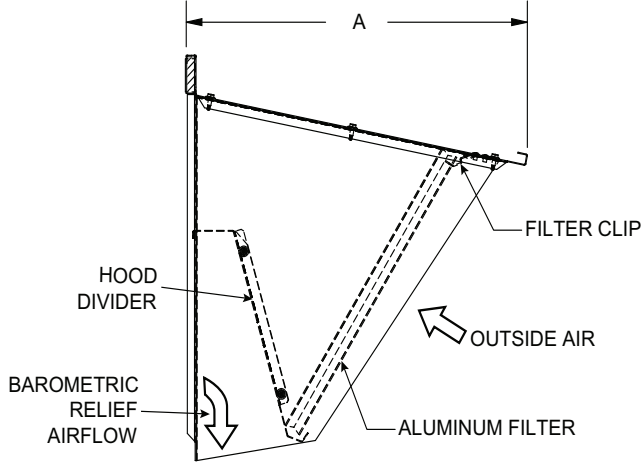
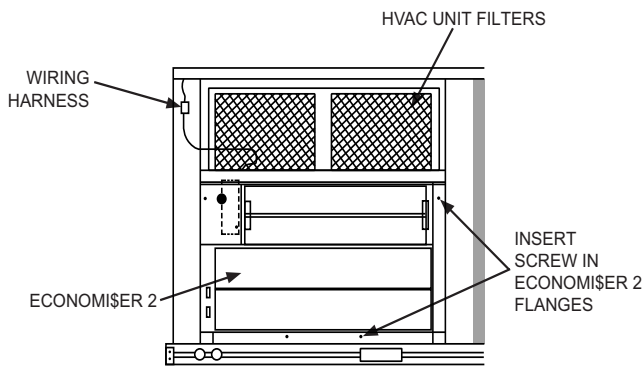
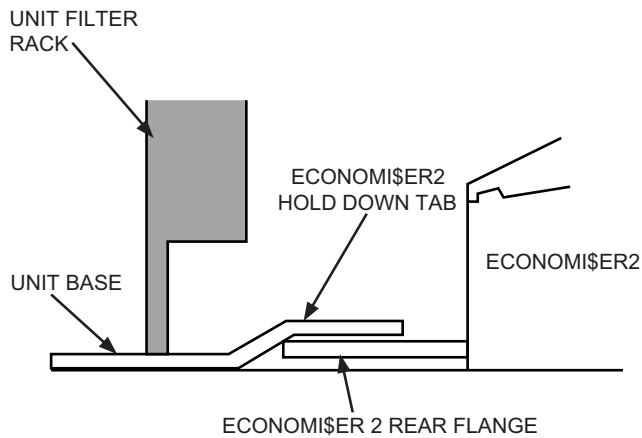

Fig. 5 — Fully Assembled Hood
Fig. 6 — EconoMiSer® 2 Installed on HVAC Unit (Small Cabinet Economizer Shown)
Fig. 7 — Rear EconoMiSer® 2 Flange Installation (Small and Large Cabinet)
- The hood should now be fully assembled; see Fig. 5 for reference. Slide the EconoMiSer 2 assembly into the rooftop unit. (See Fig. 6.) On small and large cabinets be sure to engage the rear EconoMiSer 2 assembly flange under the tabs in the return-air opening of the unit base. (See Fig. 7.)
- Secure the EconoMiSer® 2 assembly to unit along side and bottom flanges using the screws provided (see Fig. 6).
- Install the economizer hood filter(s) by opening the filter clips which are located underneath the hood top. Insert the aluminum filter(s) into the bottom filter rack (hood divider). Push the filter into position past the open filter clips. Close the filter clips to lock the filter into place (see Fig. 5).